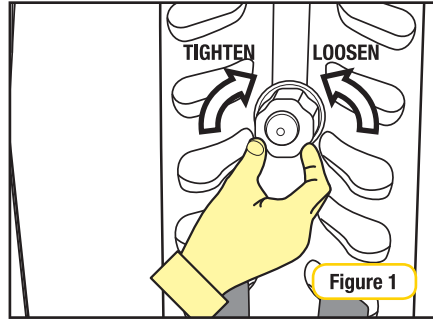

Figure 1
**Step 1:** Undo the adjustment nut which is located at the back of the restraint, raise the headrest out of the way (refer Figure 1 & 2).